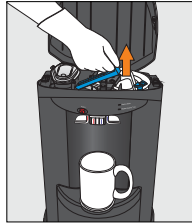

Figure 34
6. Place a glass or other container below the water outlets (to catch drips), and unlatch the locking clip located near the front of the cooler to release the water tubing (Figure 34)